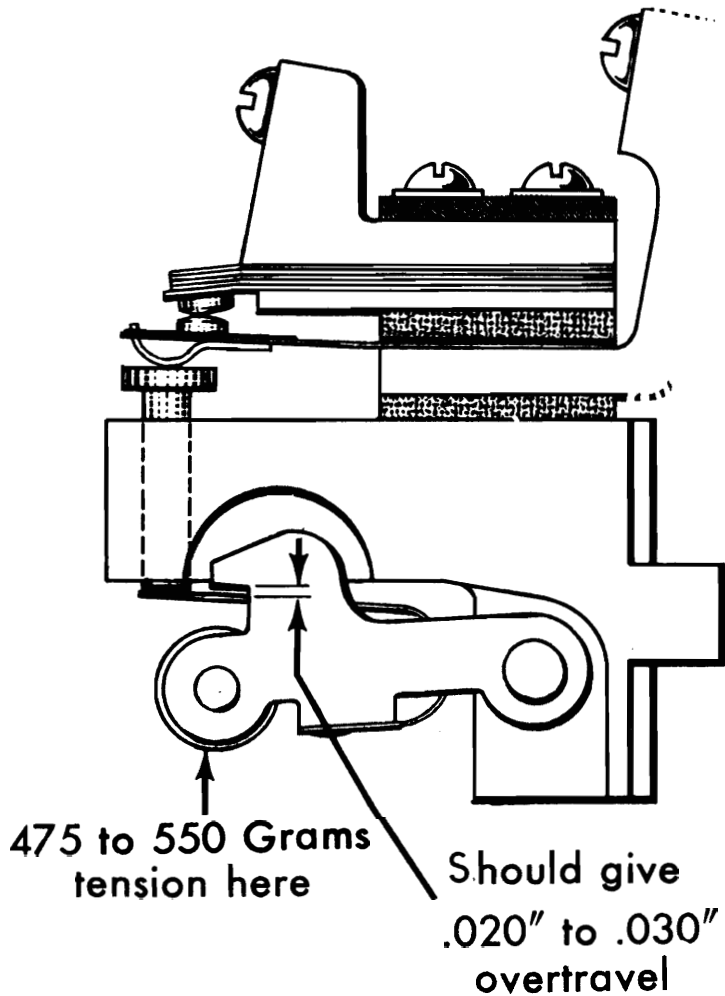

Figure 17. Plunger Circuit Breaker, Roller Cam Follower, Adjustment 3
3. When measured at the roller, 475 to 550 grams should be required to close the contacts with a .020" to .030" overtravel (Figure 17).